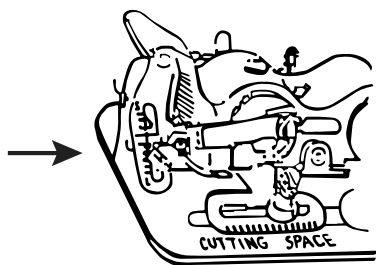

FIG. 3
1. Kindly refer to FIG. 3. Move the BUTTONHOLE LENGTH ADJUSTING SCREW between "L" and "S".